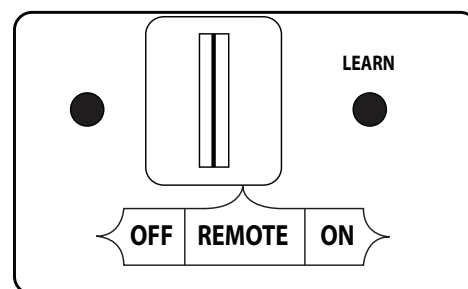

Fig. 27-2 Remote receiver (OFF for Manual Light)
1. Ensure the pilot is burning. locate the 3-position switch on the remote receiver (see Fig. 27-2), and slide the switch to the **OFF** position.